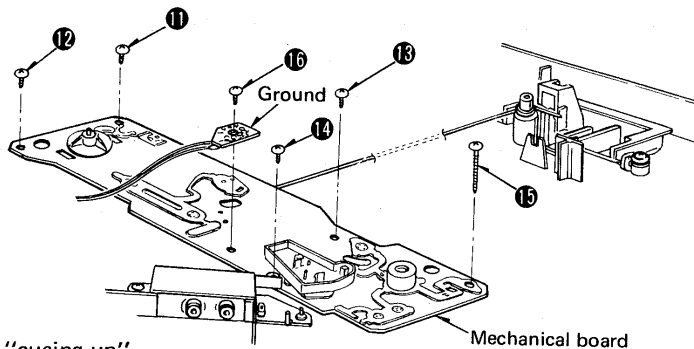

Fig. 5
## • How to remove the mechanical board (Fig. 5)
2. Remove the 5 setscrews [ Fig. 5: ⑪ ~ ⑮ ] of the mechanical board and output terminal shielding plate, and the setscrew ⑯ of the Ground terminal.